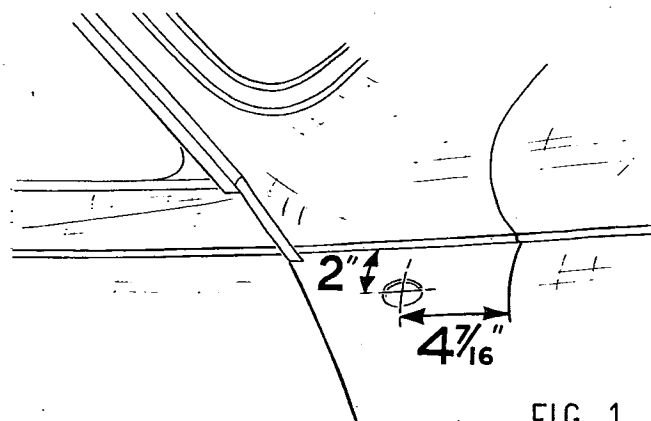

FIG. 1
4. Drill  $\frac{7}{8}$ " dia. hole in drive side front wing, as shown in Fig. 1.